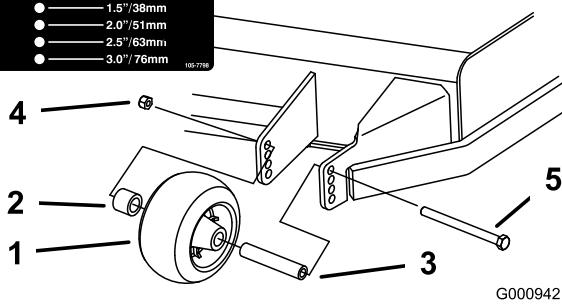
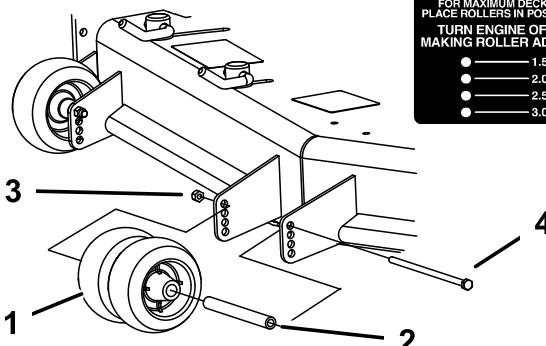
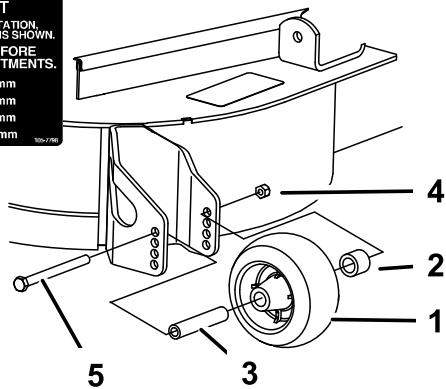

Figure 20
Figure 21
Figure 22
3. After adjusting the height-of-cut, adjust the rollers by removing the flange nut, bushing, spacer, and bolt (Figure 20 , Figure 21 and Figure 22).
Note: The two middle rollers will not have a spacer (Figure 21).
5. Install the flange nut bushing, spacer, and bolt. Torque to 40-45 ft-lb (54-61 N·m) (Figure 20 , Figure 21 and Figure 22).